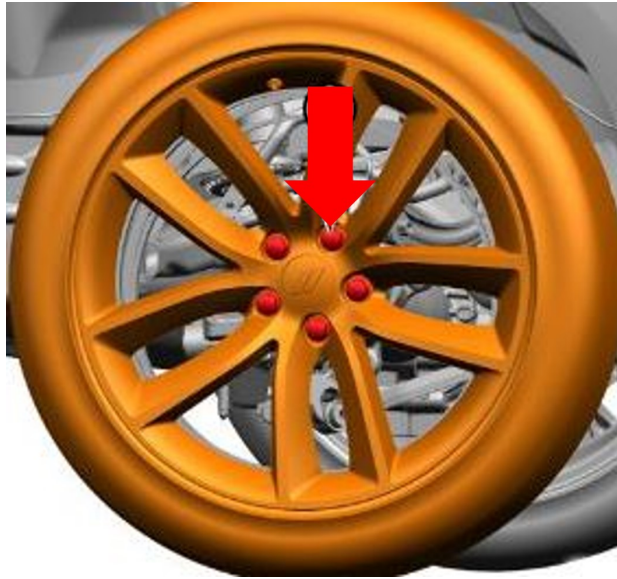

Fig. 1
3. Progressively tighten the wheel lug nuts (Fig. 1) in a star pattern to the proper torque. Refer to the detailed service procedures available in DealerCONNECT/Service Library under: 22 - Tires and Wheels / Wheels / Technical Specifications.